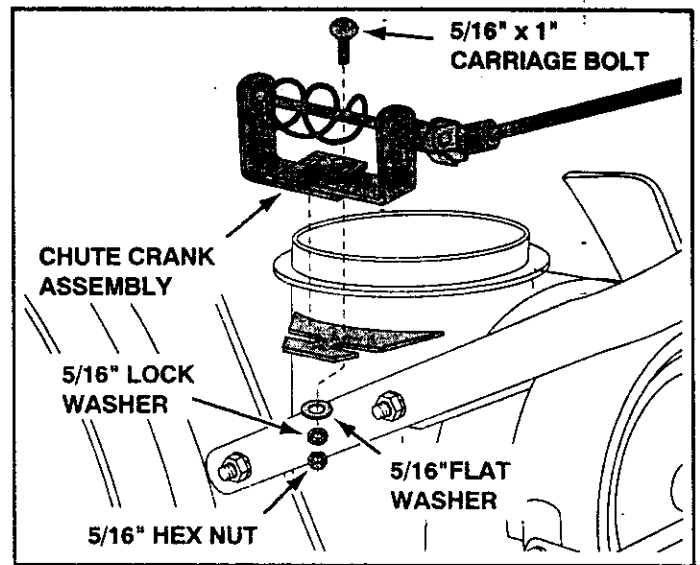

FIGURE 13 LEFT SIDE VIEW
- Attach the chute crank assembly to the plastic bracket on the left side of the thrower housing as shown in figure 13. Use two 5/16" x 1" carriage bolts, 5/16" flat washers, 5/16" lock washers and 5/16" hex nuts. **Do not tighten yet.**
- Position the chute crank assembly so that the crank rod spiral does not rub the bottoms of the notches in the chute flange and then **tighten** the nuts left loose in figure 13.